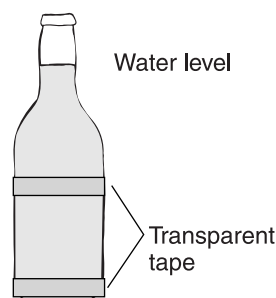

Figure 1.
3. Wrap transparent tape around the bottom of the bottle and half-way up the bottle (see Figure 1). This will help contain any broken glass once the bottom cracks out.
4. Fill the bottle about three-quarters to seven-eighths full with water so that the water level is in the neck of the bottle, just above wider “body” part of the bottle (see Figure 1). Add food dye if desired.